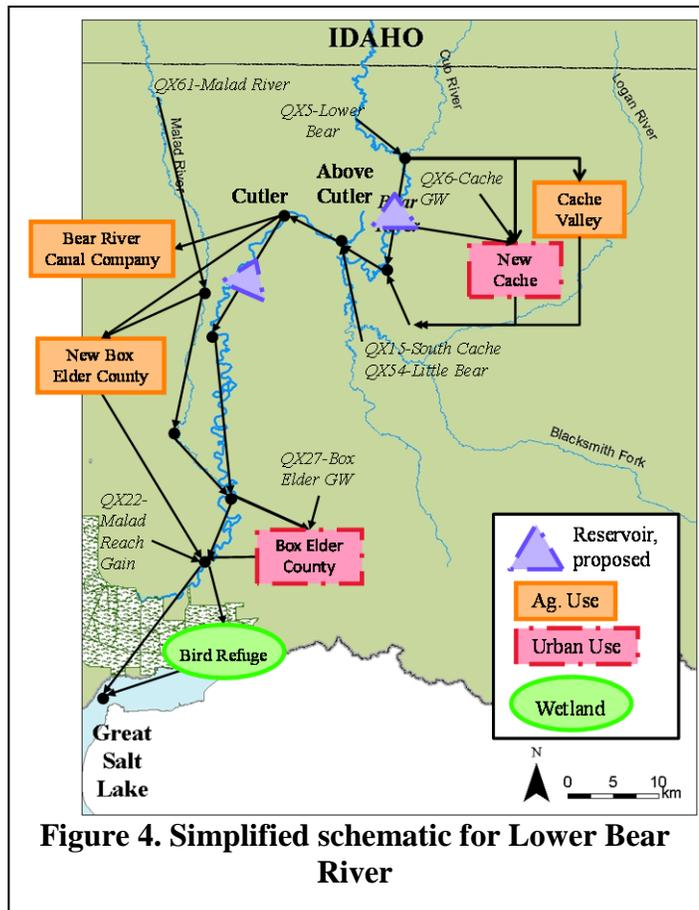

Figure 4. Simplified schematic for Lower Bear River
These assumptions will allow you to simplify the model schematic (Figure 4).
5. From the **Area** menu, select **Open** and select the area *LowerBearRiver-CEE5460* from the list. The model should load, and you should see the Lower Bear River Basin schematic. Note that this project includes many of the schematic elements for the Lower Bear River Basin but a few are missing! Compare the WEAP schematic to Figure 4.
- a. To add a Demand Site (Service Area in Figure 2 or Box in Figure 4), go to the top box and check *Demand Site*.
11. **Headflows**. **Headflows** are the most upstream flow inputs to river elements in the WEAP model and are indicated by the corresponding most-upstream arrows in Figure 4 on each river. Each arrow is also labeled with a name. To assign headflow data:
12. **Reach inflows**. **Reach inflows** are local or tributary inflows (sometimes called reach gains) that flow into a river at downstream locations. These reach inflows are also indicated by arrows in Figure 4 and labeled by source (QX15-South Cache Reach Gain; QX22-Malad Reach Gain). Note that the reach inflow data time-series you have been
13. *Demand Sites*. Demand sites are locations where water is desired to be used and are represented by boxes or ovals in Figure 4. In the schematic, right click one of the Demand Sites. Select **Edit Data=>Method**. A data window will open.
14. *Transmission Links*. In the schematic, right click on a *Transmission Link* and select **Edit Data=>Maximum Flow Volume**. Leave nearly all settings at their default values (i.e., unlimited capacity, no losses, and no costs). On the Supply Preference tab, verify that transmissions from the Bear River have highest priority (1) and that transmissions from other sources (the Malad River, groundwater, etc.) have lower priority (2).